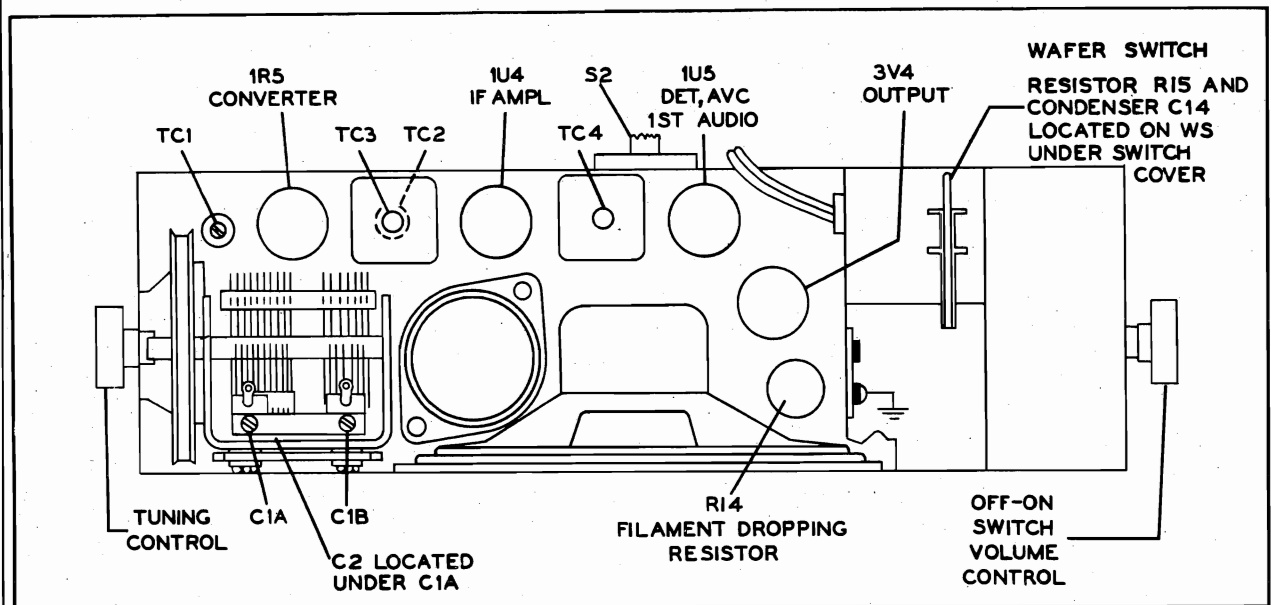

Figure 2. Top View, Showing Tuning Adjustments
**NOTE 2.** The tuning condenser can be set to the proper frequency by turning it until the dial pointer coincides with the respective marks on the dial backplate. See figure 2.